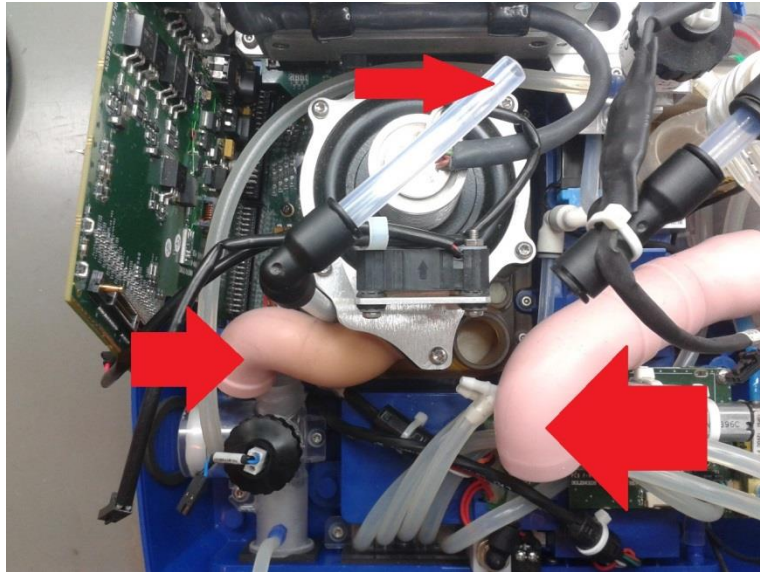

Figure 30 – Blower disconnection
5. Disconnect the internal mixer tubing **\*(for IO2 models only – see Figure 30)**
6. Disconnect the Inlet and outlet silicon hoses (see Figure 30)